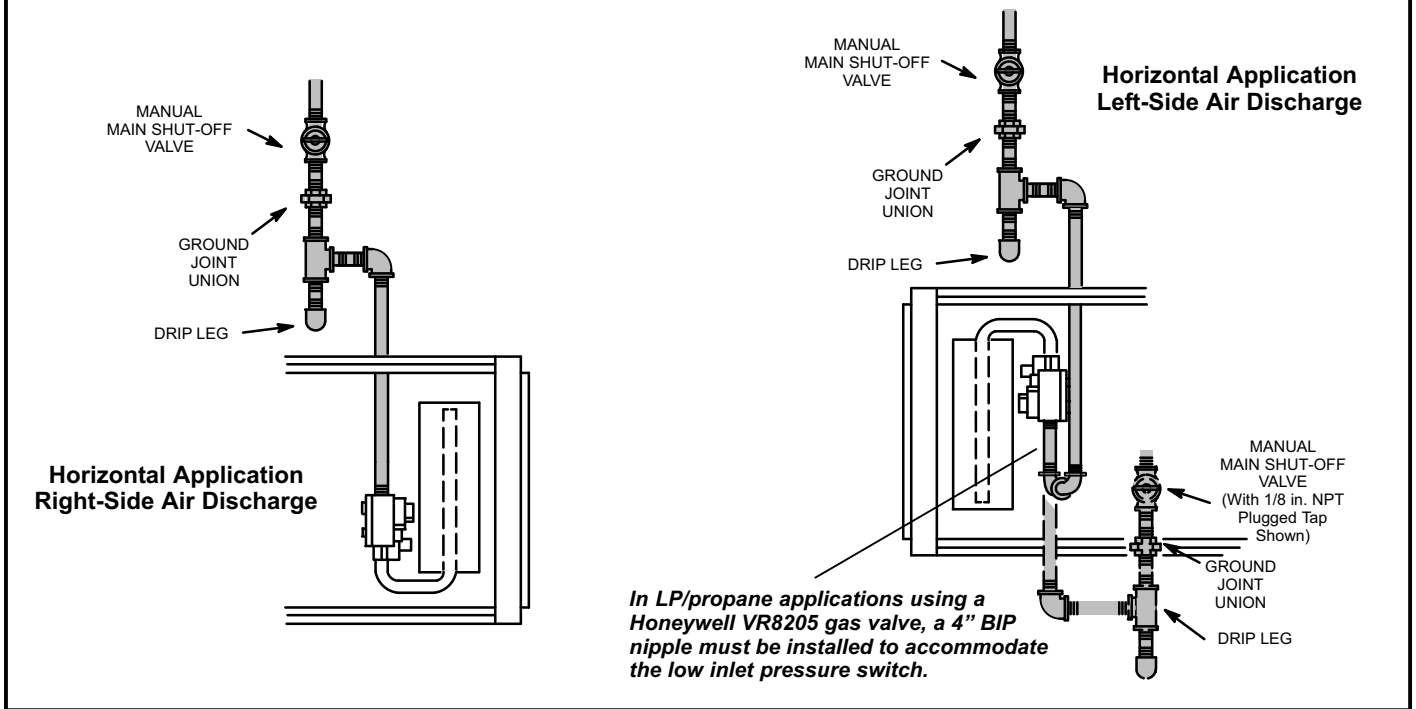

FIGURE 48
- 1 - Gas piping may be routed into the unit through either the left- or right-hand side. Supply piping enters into the gas valve from the side of the valve as shown in figure 48 or 48.
- 3 - Gas piping must not run in or through air ducts, clothes chutes, chimneys or gas vents, dumb waiters or elevator shafts. Center gas line through piping hole. Gas line should not touch side of unit. See figure 48 or 48.